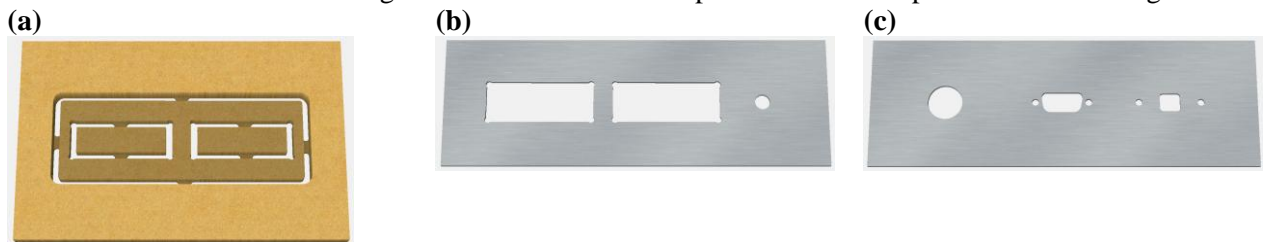

Fig. S4. Renderings of the CNC-milled parts including (a) the PVC foam spacer for the displays, (b) the aluminum front and (c) back panels.
- * CNC-mill the openings of the back panel using 'box back.c2d'. Using the existing four holes, we attached the panel to the spoil board with small wood screws. Alternatively, the panel openings can be cut out with a drill and a metal saw. Renderings of the three CNC-milled parts used for this part are shown in Fig. S4.